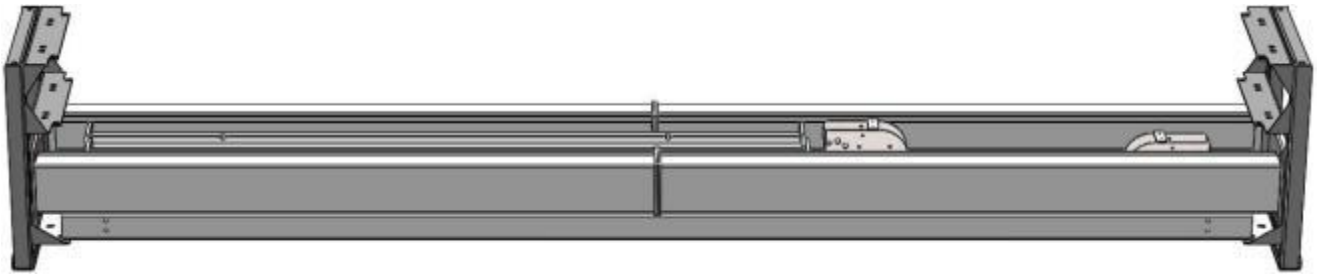

Fig. 11
4. Take out the parts in the offside platform, loosen the bolts of the middle package, take out the offside platform/power side platform of the middle package. **(See Fig. 11)**